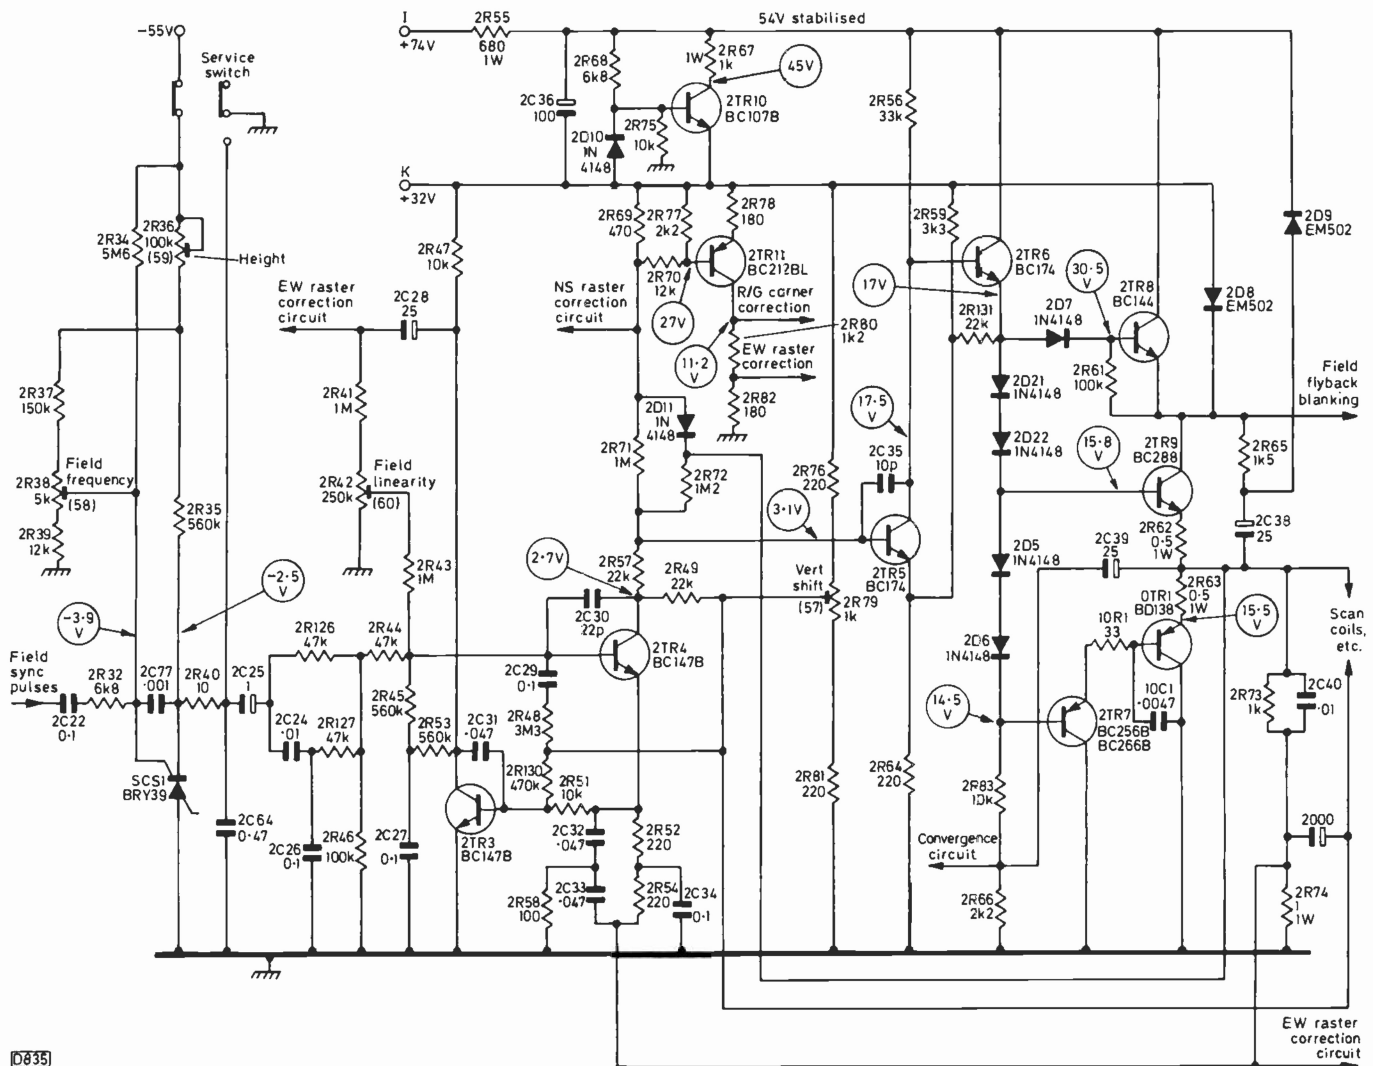

Fig. 2: The field timebase circuit used in the Beovision 3400 chassis.
Now look at the top of the chassis. Locate the capstan, and remove the rubber washer 154 (199 in the N1501 manual's exploded view – bracketed numbers hereafter refer to the N1501). Gently remove the drive belt 163 (209) from pulley assembly 219 (238) etc. (see photo 5). Note that plate 520 (522) locates over the lug on bracket 170A (217). Pull the flywheel and capstan 162 (208) etc. from bearing 155 (200). Look out for nasty greasy bits and also falling bearing plates etc. The idler wheel assembly 142 (186) is best removed for replacement (if necessary) at this point. Put the flywheel assembly aside for machining (see photo 6). The diameter of the capstan has to be reduced to 0.1312in. (± 0.0001) – see Fig. 2. This is a precision job and must be done by a firm with the necessary equipment. We got A.C. Park Precision Ltd., Holland House, Burmester Road, Tooting, London SW17 (telephone 01-947 2942) to do the job.
The field timebase circuit (see Fig. 2) is on No. 2 panel, below the c.r.t. neck. Sync pulses from the TAA790 sync/line oscillator i.c. pass through an integrator/clipper circuit to the gate of SCS1 (BRY39), which is a conventional sawtooth oscillator. The sawtooth generated across 2C64 is amplified by 2TR4 which drives 2TR5 and by emitter-follower action feeds a sawtooth waveform into the base of 2TR3. This stage functions as a Miller integrator, converting the field sawtooth into a parabolic waveform at its collector – primarily for EW correction in the line deflection stage, but also potted down by the vertical linearity control 2R42 and mixed with the sawtooth input to 2TR4 for linearity correction. A second integrator (2R53 and 2C27) further modifies the parabola, reinjecting it into the base of 2TR4 via 2R45 for field scan correction. Feedback from the output stage is applied to the base and emitter of 2TR4, to the base of 2TR3 via 2R130 and to the base of 2TR5 via 2R49 and 2R57.